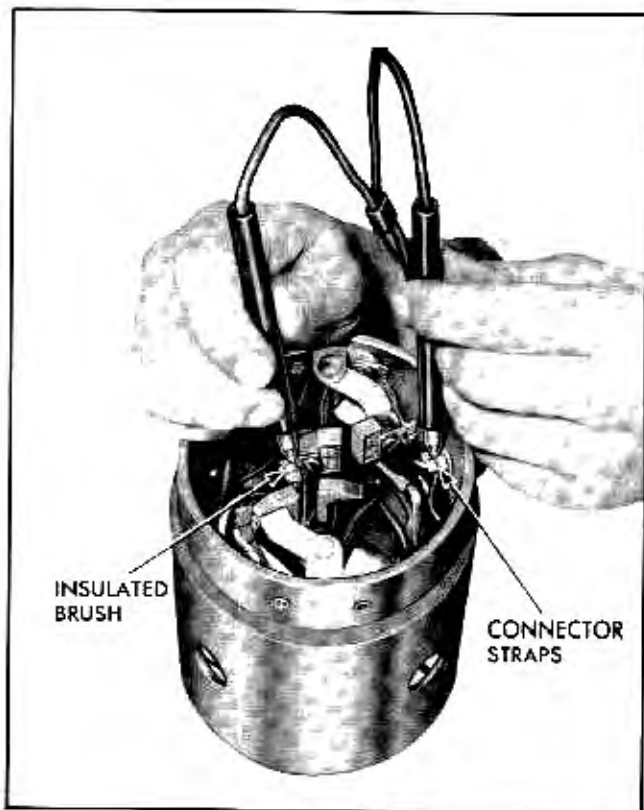

Fig. 12-38 Testing Field Coils for Open Circuit
c. Using a 110-volt test lamp, place one lead on each end of the three field coils connected in series (Fig. 12-38). If the lamp does not light, the field coils are open and will require repair or replacement.